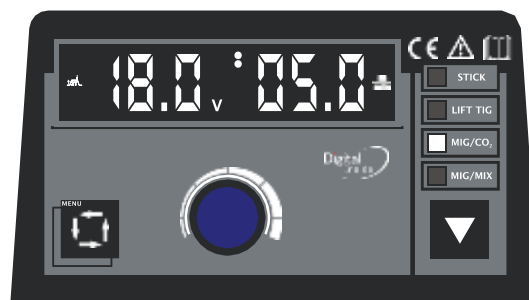

**Fig.3: The preset current under TIG mode**
- b) Under TIG mode, the multifunctional data display is as shown in Fig.3.